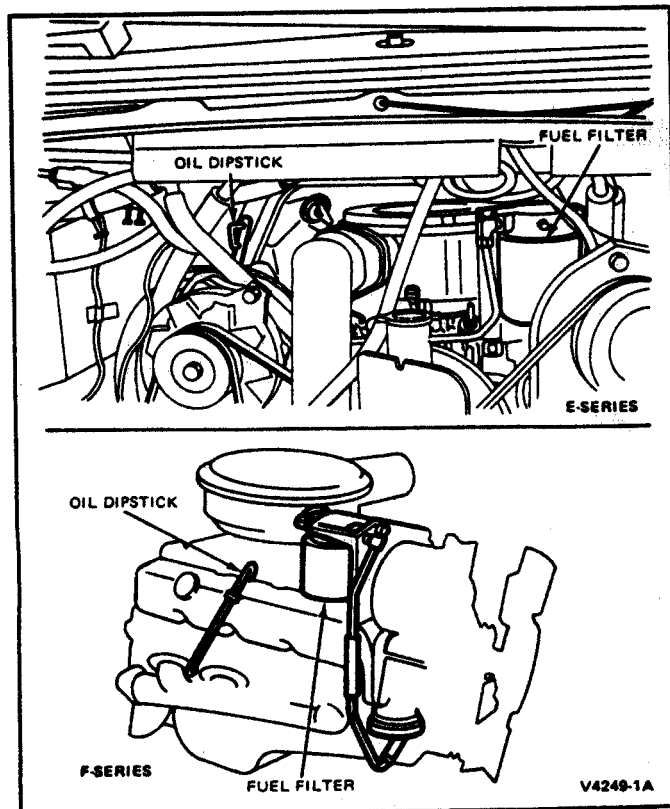

FIG. 1 Fuel Filter Installation—6.9L Engine
Refer to the Owner's Guide Supplement for fuel filter information. The fuel filter used on the 6.9L Diesel is shown in Fig. 1.
Refer to Figs. 1 and 2.
3. Unscrew fuel filter from adapter (Fig. 1).